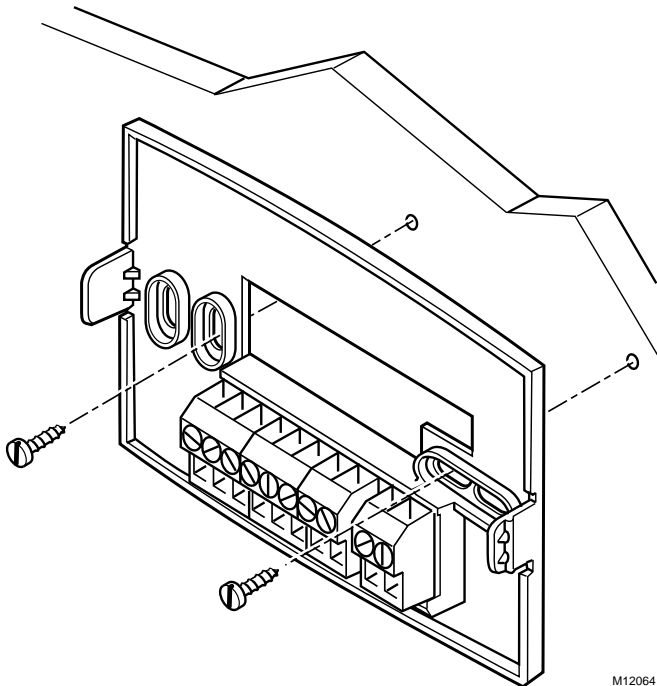

Fig. 2. Mounting thermostat.
1. Insert the screws through the mounting holes as shown in Fig. 2.